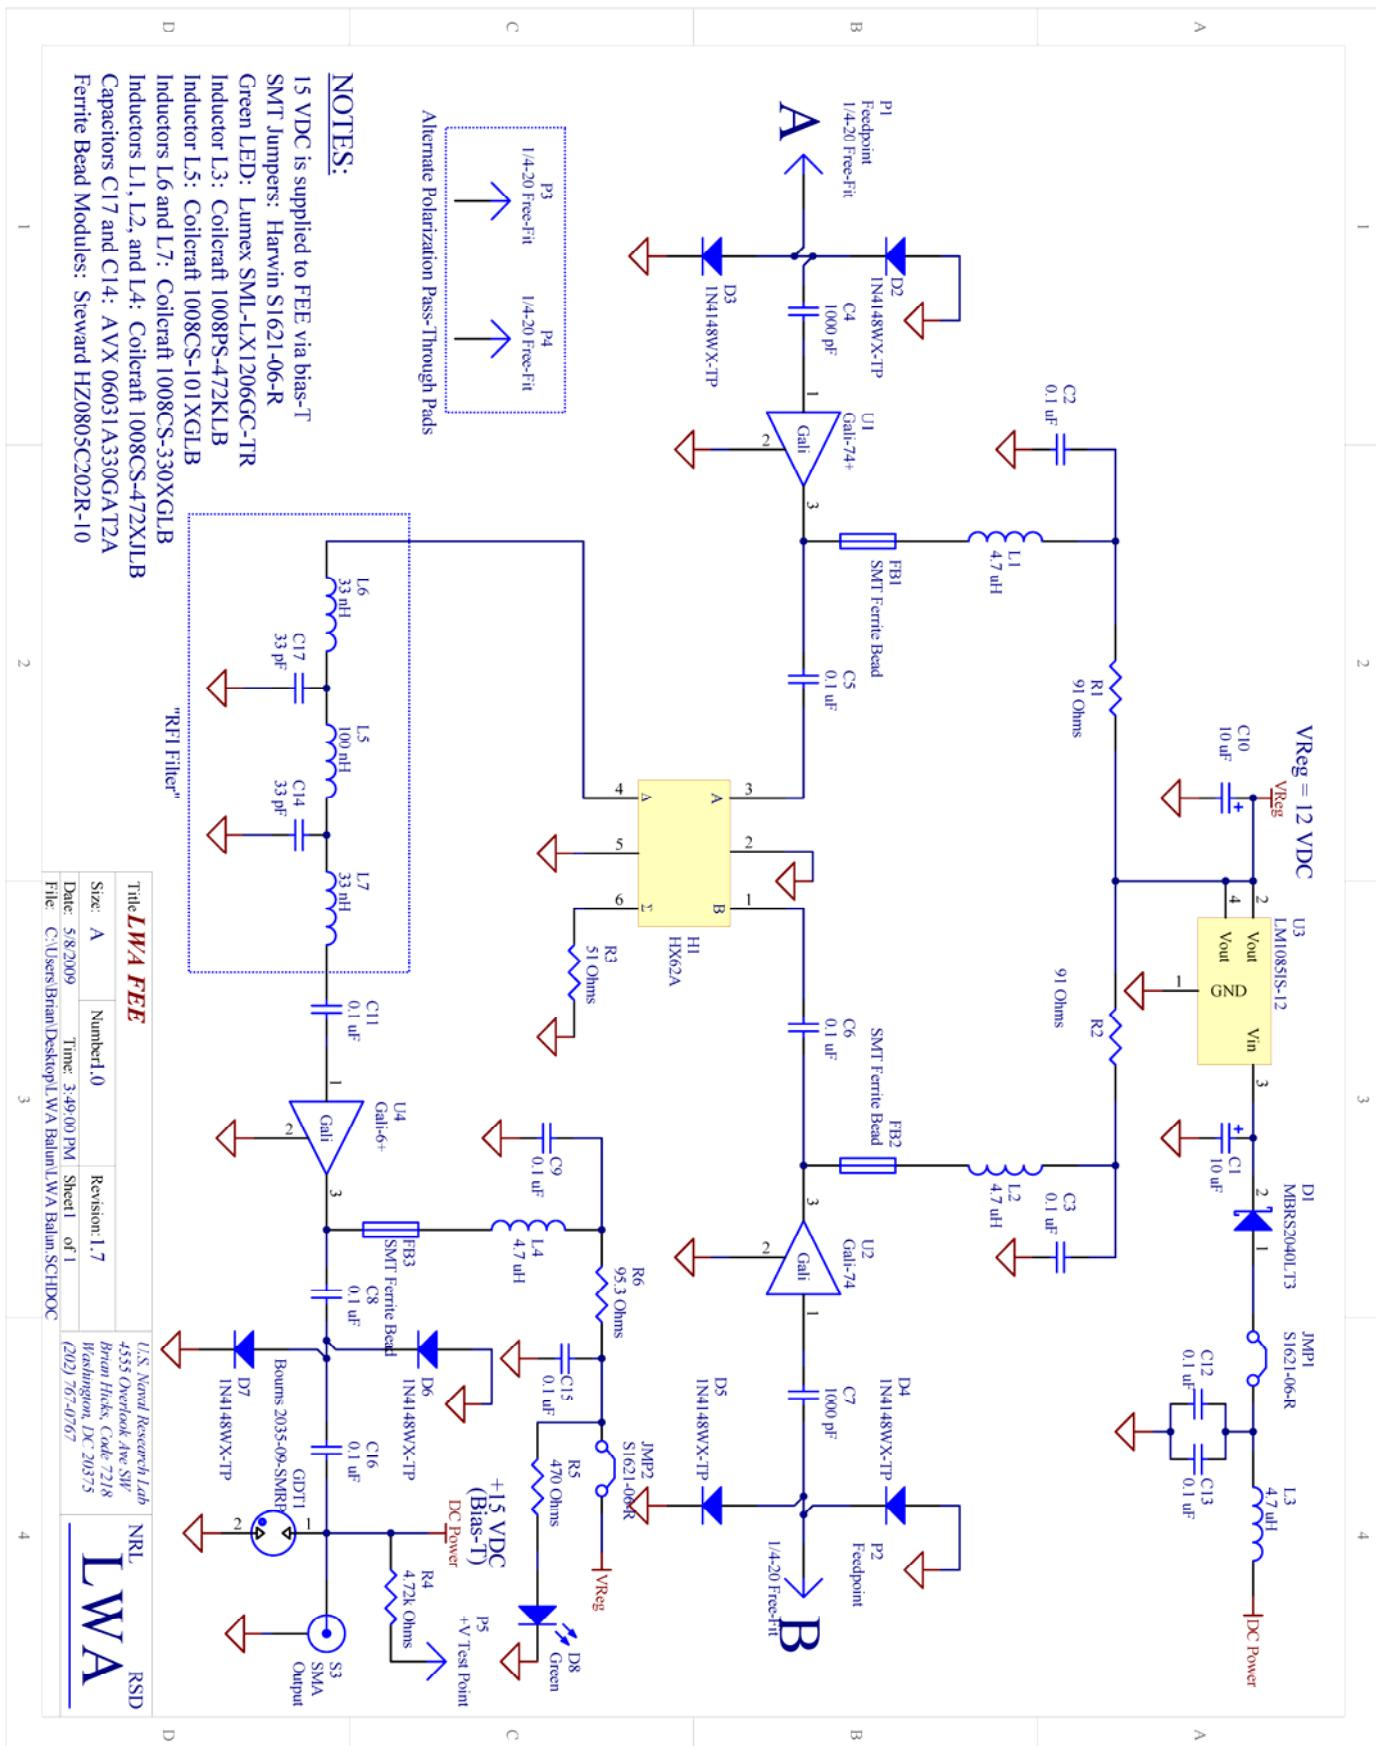

Figure 1 – Updated Schematic of the LWA FEE (Version 1.7)
To start the diagnosis and repair of a front end, set up a work station according to the diagrams in Figure 1 and 2. The spectrum analyzer should be set at a center frequency of about 100 MHz with a span of 200 MHz to completely cover the science band of the LWA. Next, it is important to calibrate the spectrum analyzer to ensure the test fixture supplies accurate information of FEE performance before, during, and after repairs. Start by removing all attenuators on the RF output from the spectrum analyzer and reconnect the cable
9. Next, check the capacitors nearby the Voltage regulator (C1 and C10), again replacing if need be. C1 and C10 fail very frequently and may show as “no power” on the board. A fast way to confirm a failure is to use an infrared thermal camera: a bad capacitor often appears unexpectedly hot when power is applied. Figure 1 shows a comparison between a standard optical image and an infrared thermal image of the same FEE board.
Figure 1: Comparison of optical and infrared thermal imaging of an LWA FEE board. Thermal imaging reveals a component heating that is not apparent during visual inspection.
A schematic representing the most recent revision (1.7) of the LWA FEE is given in Figure 1.